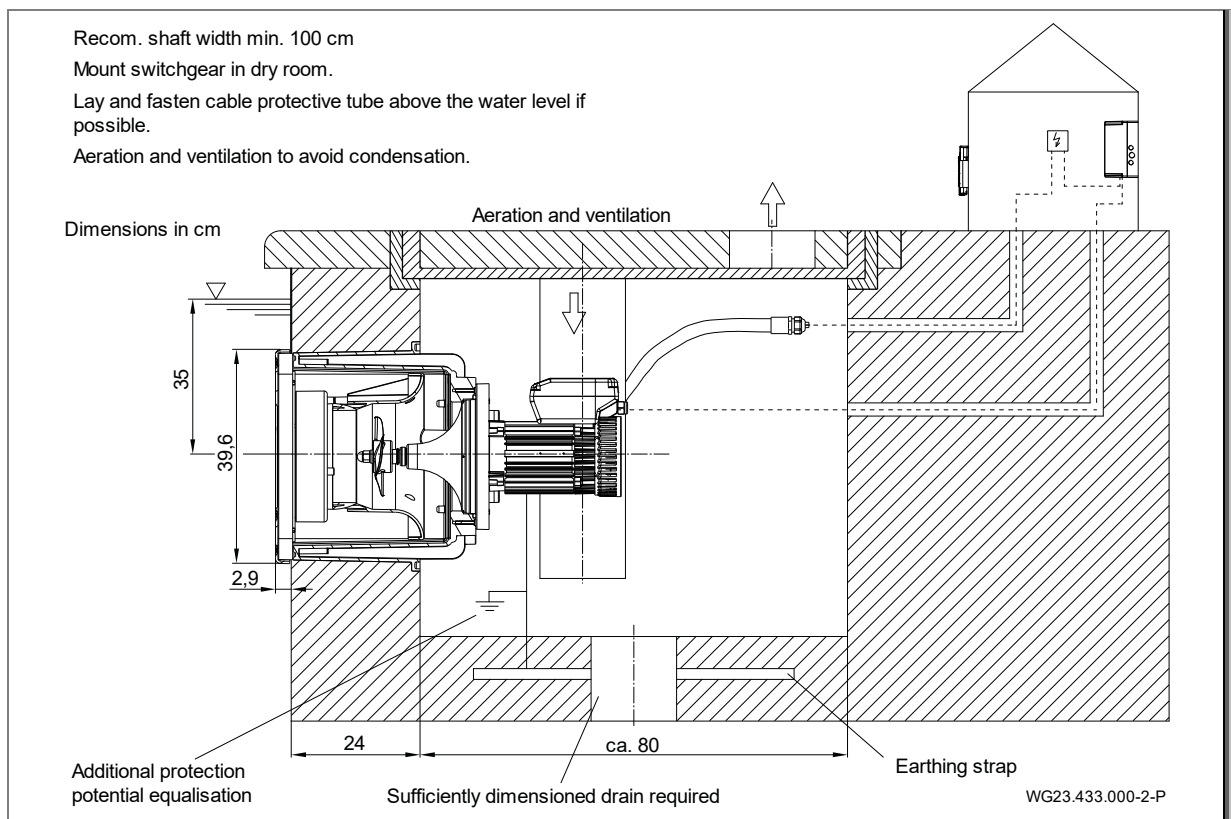

Fig. 17
1. Remove grease from the connection nozzle (d, see "Fig. 17" on page 20) on the plastic housing (1) and the connection socket of the cable protection tube (12) with PVC-U/ABS cleaner.
The system must be installed in a shaft which borders the edge of the pool. The installation space must have perfect ventilation and sufficient ground drainage. There must be a fastening possibility for the cable protection hose (above the water level if possible). There must be a potential equalisation connection in the shaft. See point "Fig. 17" on page 20.